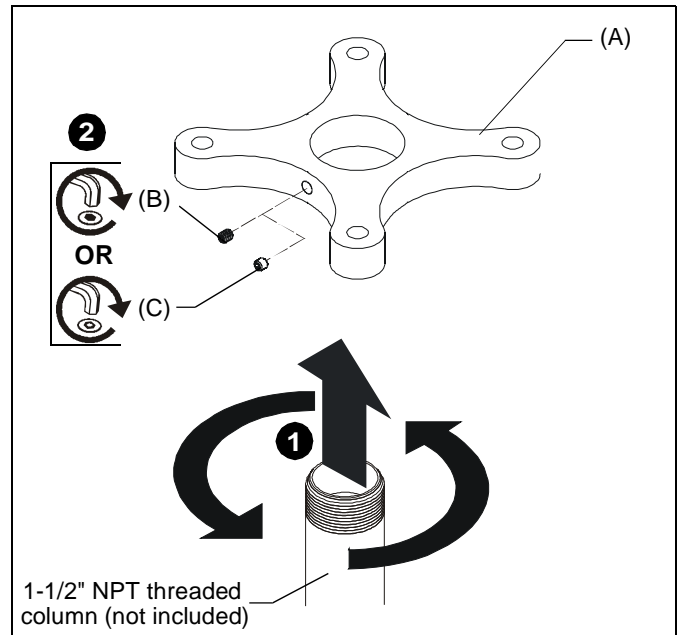

Figure 6
1. Install 1-1/2" NPT or NPSM following ANSI/ASME B1.20.1 (Schedule 40, 0.154" minimum thickness steel or aluminum - ASTM B221) threaded extension column (not included) into threaded collar of CMA101 until tight, with a minimum of four threads engaged. (See Figure 6)
2. Install 5/16-18 x 3/8" set screw (B) [**OPTIONAL:** Use one 5/16-18 x 5/16" security set screw (C) for security installation] into hole on ceiling plate (A) to secure pipe to mount. (See Figure 6)